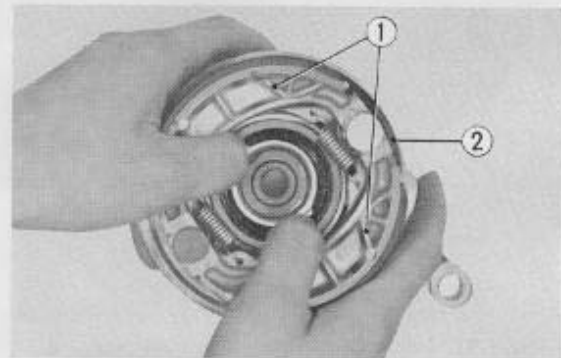

Fig. 4.59 Removing front brake shoes
- ① Speedometer cable
- ② Brake cable
- ③ Front axle
- ④ Castle nut
- ⑤ Panel stopper bolt
- ⑥ 8 mm hex bolt
- (5) The front brake shoes ① shall be removed from the panel ② by spreading the shoes against the brake shoes spring pressure and pulling out. (Fig. 4.59)